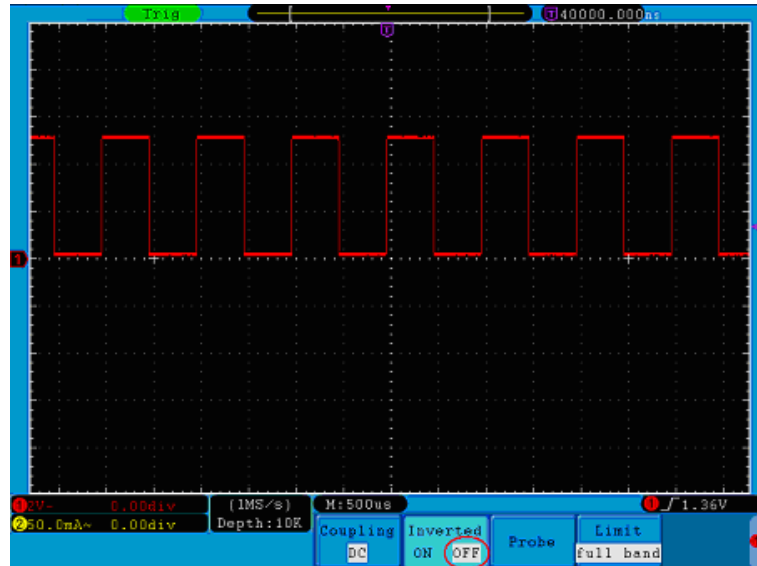

Figure 20. Original Waveform.
- 2 Press the **H2** menu selection button and select **ON** for **Inverted** item. The waveform is inverted as it is shown in Figure 20.